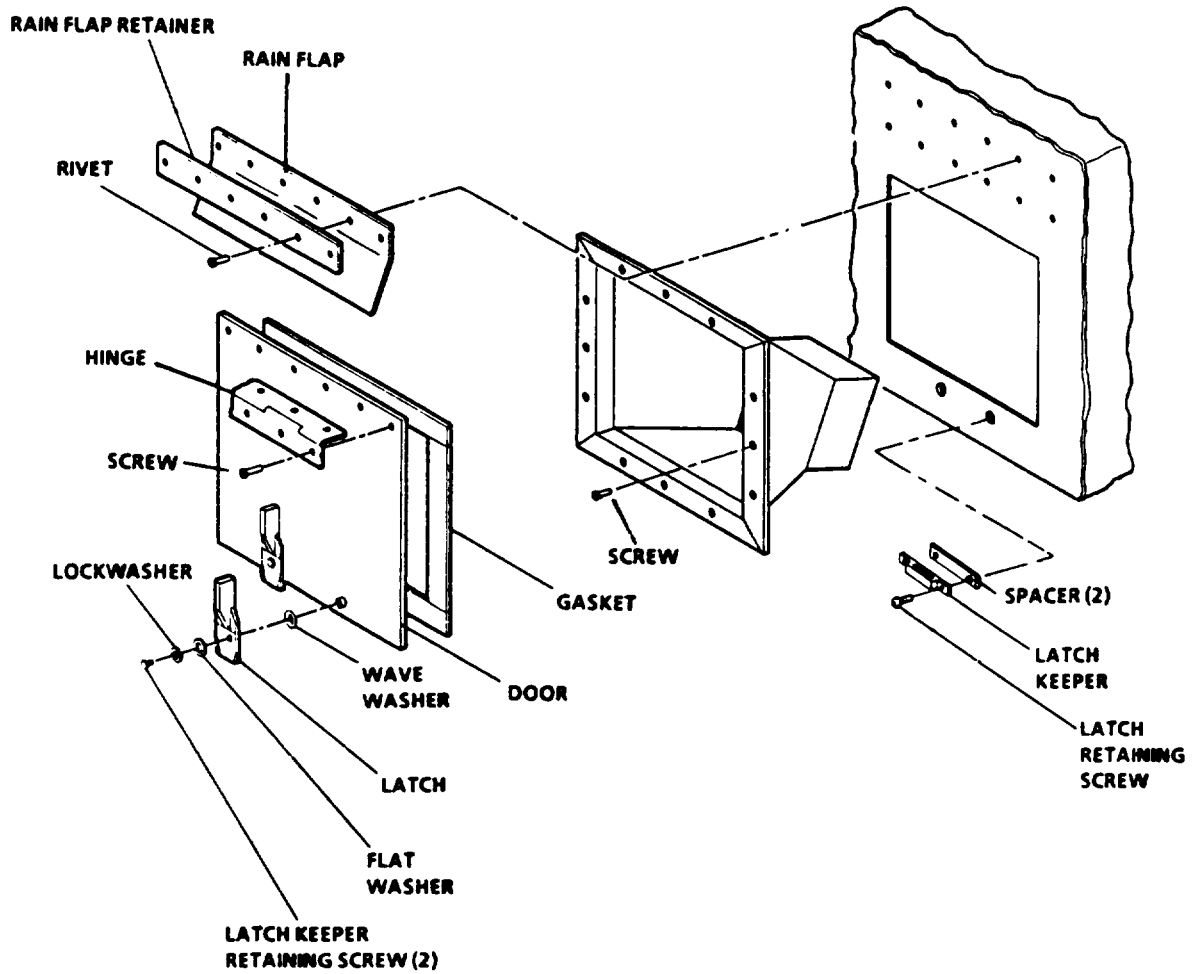

Figure 4-2. Water Reservoir Door
5. Remove rain flaps. See figure 4-2.
1. Install door latch and wave washer. See figure 4-2.
2. Install latch keeper. See figure 4-2.
3. Install water reservoir door weatherstripping. See figure 4-2.
4. Install water reservoir door. See figure 4-2.
5. Install rain flap. See figure 4-2.